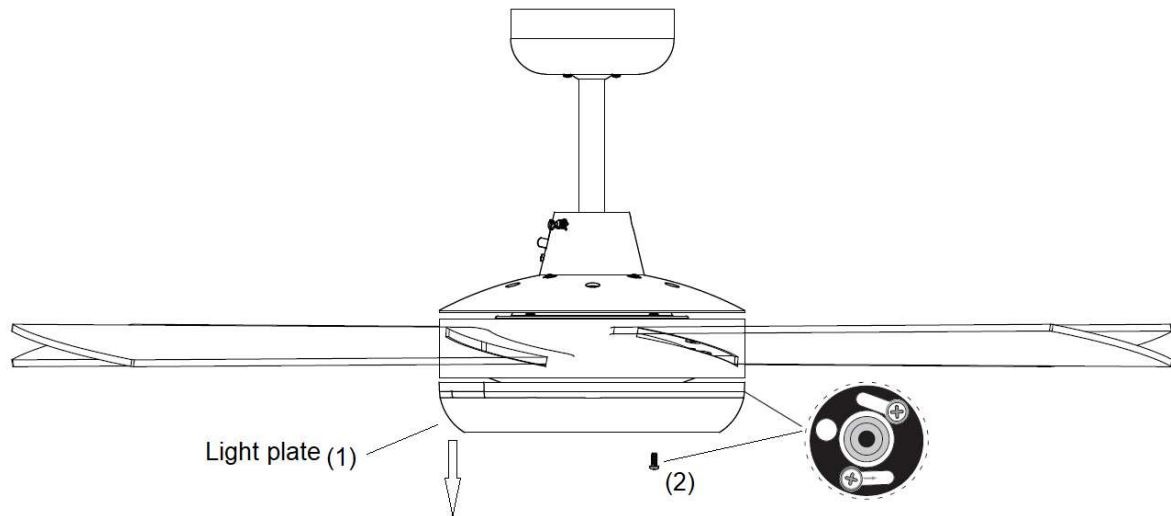

Fig. 4
1. Remove the screw (2) and turn the light plate (1) anti-clockwise to remove it from the main body. (Fig.4)